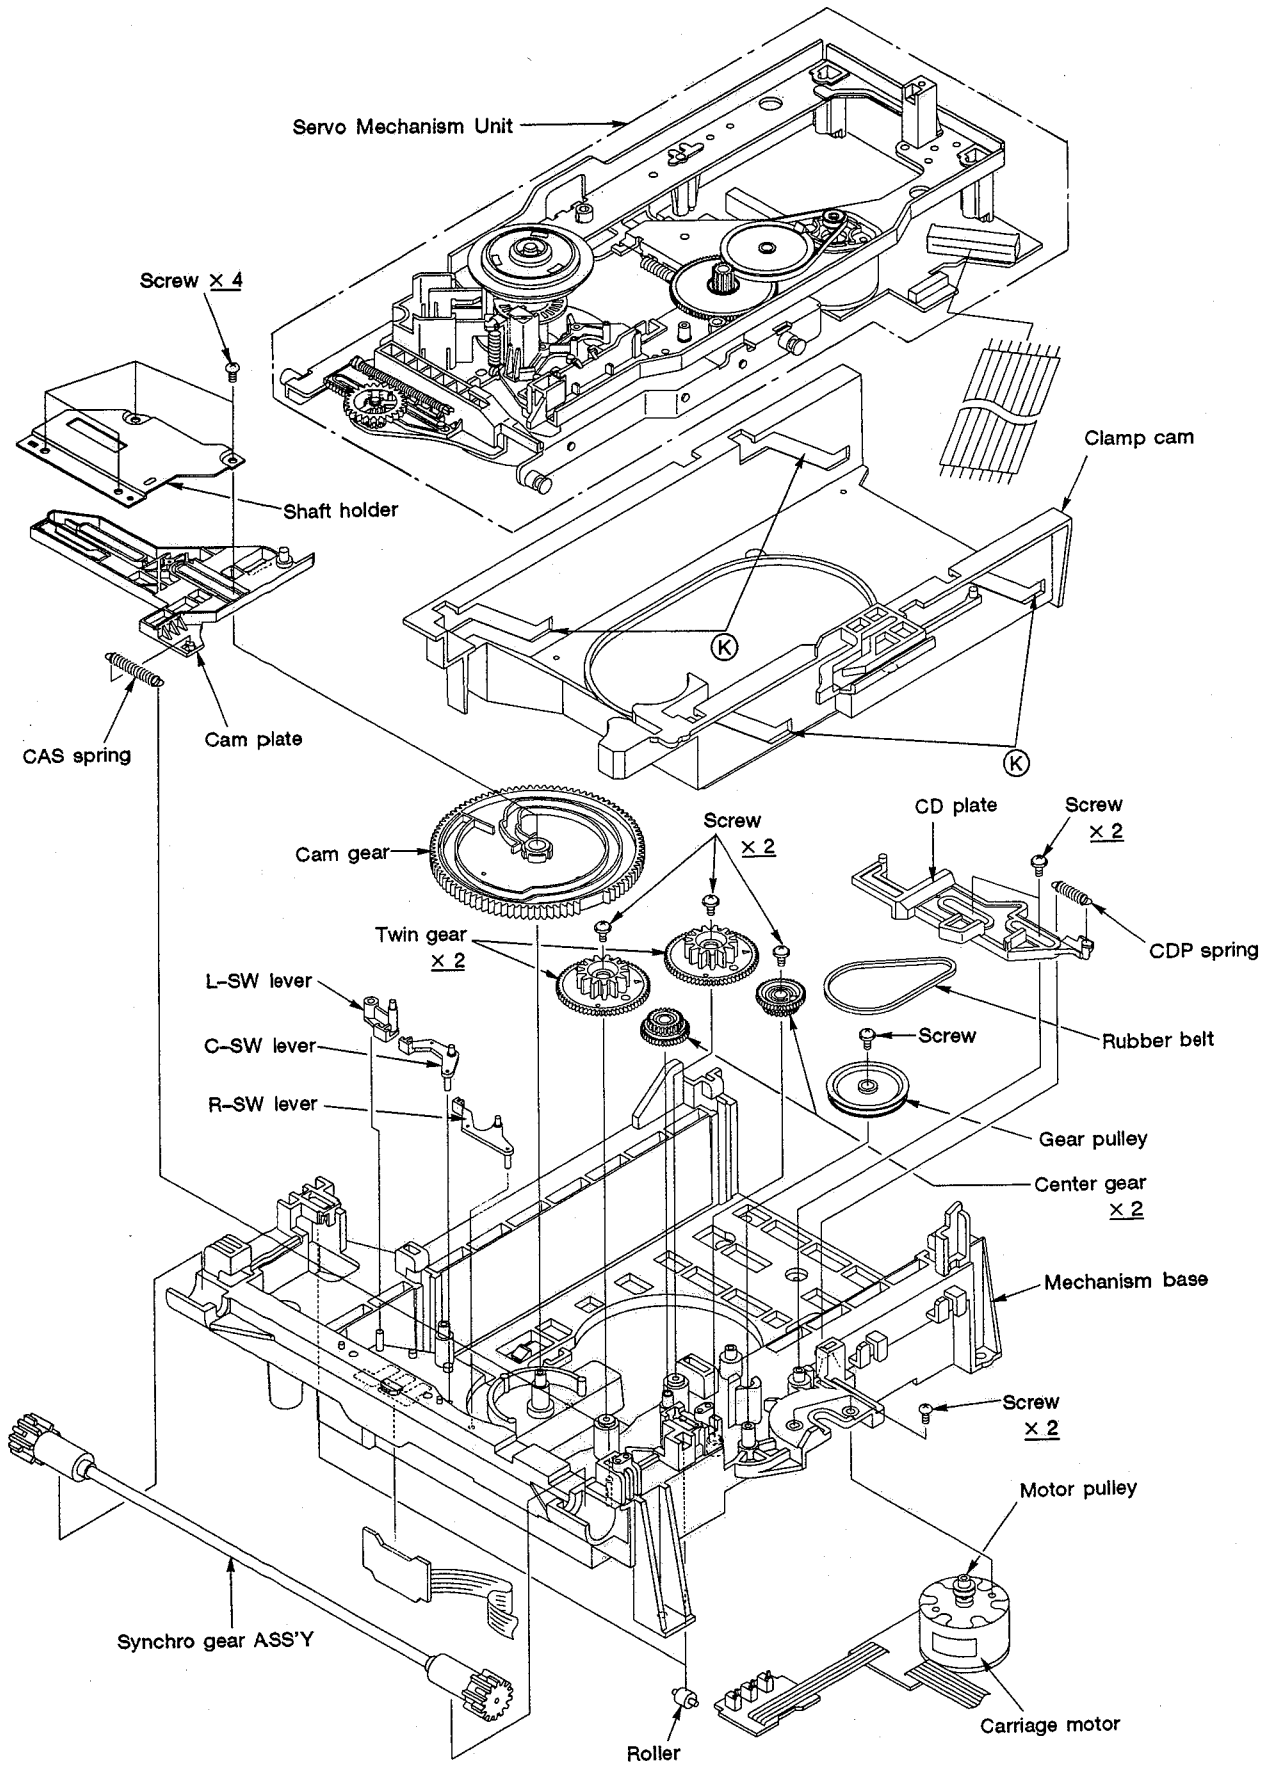
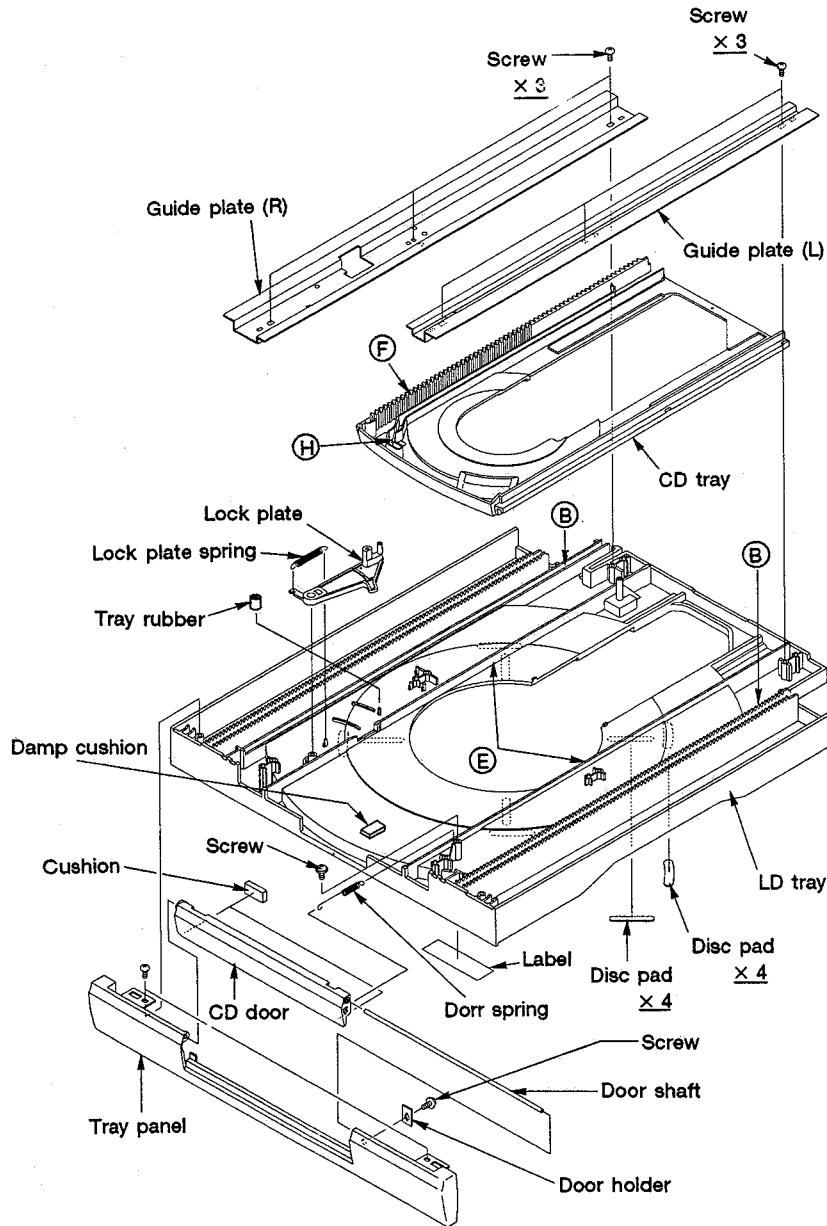
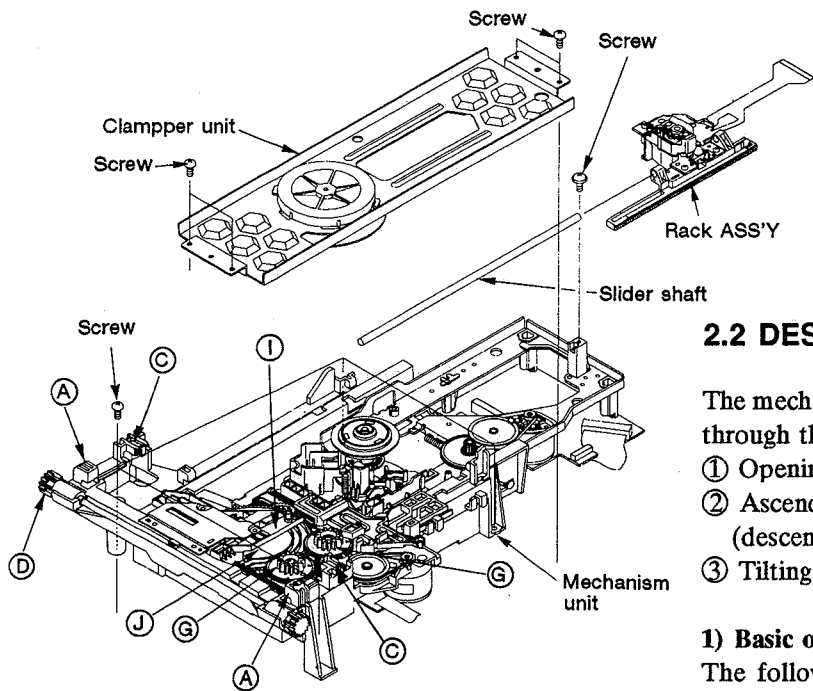
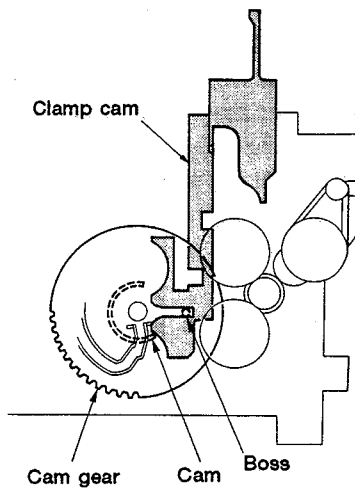

Fig. 2-2 Loading Mechanism unit
Fig. 2-4 Tray unit (Bottom view)
Fig. 2-5 Mechanical unit
Fig. 2-7
**③ Tray Unit (Refer to Fig. 2-4 and Fig. 2-5)**
As a support system to the tray unit, two protruding portions **Ⓐ** (Fig. 2-5) are located on the front, left of the mechanism base, and a cam groove **Ⓑ** (Fig. 2-4) is located on the bottom side for the left/right movements
of the LD tray. Rollers **Ⓒ** (Fig. 2-5) are located on the left and right of the mechanism base, and a synchro gear assembly **Ⓓ** exists for the up/down movements of the LD tray. The synchro gear assembly ensures left/right synchronization. As for the CD tray, a protruding rib **Ⓔ** (Fig. 2-4) is located on the bottom side of the LD tray for the left/right movements, while guide plates are located on the left and right of the rib for the up/down movements.
**① Loading the Tray**
While the rack gear ⑥ (Fig. 2-4) and twin gear ⑦ (Fig. 2-5) the bottom side of the CD tray are engaged, the cam gear ① is engaged with the twin gear ⑦ by moving the cam plate ① through the cam ⑧ (Fig.2-4) on the bottom side of the CD tray. (The rack gear on the bottom side of the CD tray is separated from the twin gear.)
**② Ascending of the Servo-Mechanism Unit**
The clamp cam is moved towards the rear by engaging the cam and boss on the back side of the cam gear to the clamp cam (Fig. 2-7). The servo-mechanism assembly ascends through the cam ⑨ (Fig. 2-2) on the clamp cam.